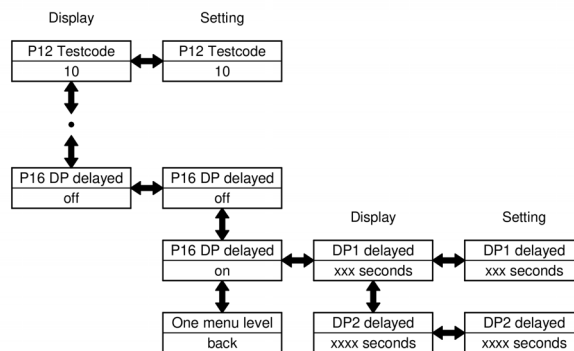

Fig. 4-7 Differential pressure time delay
**Test code 10** can be used to open an advanced setting which makes it possible to select a time delay of the differential pressure signals  $\Delta P$  75% and  $\Delta P$  100%. (For a detailed description of settings and operation, see Fig. 4.7)